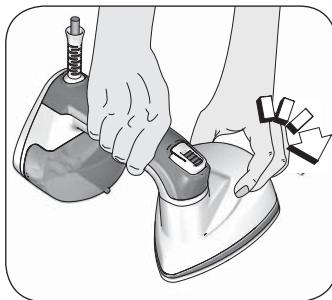

Fig. 2
4. Turn the soleplate clockwise using the specific handle. Place the soleplate in Garment mode (Fig. 2).
2. Turn the soleplate clockwise using the specific handle. Place the soleplate in Garment mode (Fig. 2).